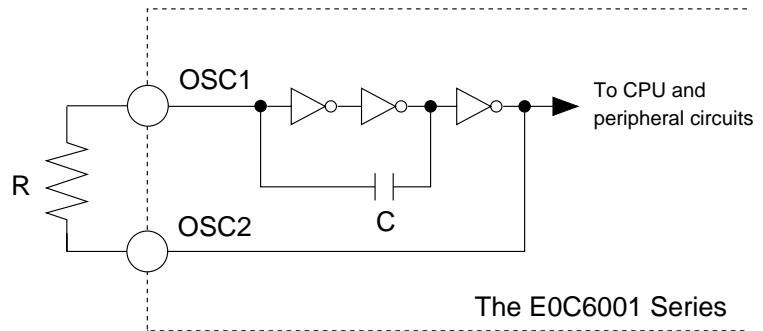

Fig. 4.2.2
For the E0C6001 Series, CR oscillation circuit (typ. 65 kHz) may also be selected by a mask option. Figure 4.2.2 is the block diagram of the CR oscillation circuit.
As Figure 4.2.2 indicates, the CR oscillation circuit can be configured simply by connecting the register (R) between pins OSC1 and OSC2 since capacity (C) is built-in. See Chapter 6, "ELECTRICAL CHARACTERISTICS" for R value.